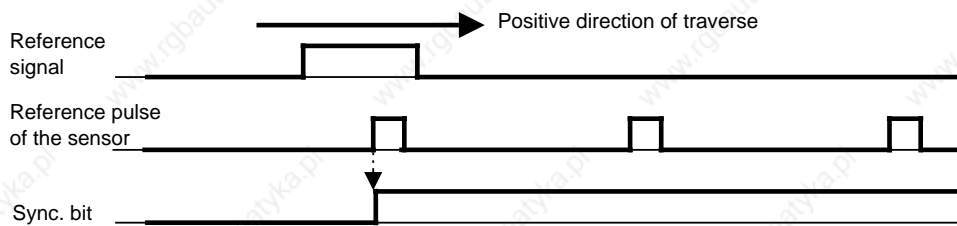

Figure 15-17. Position of the Reference Point (SYNC Bit 0 --> 1) within the Reference Signal Range
- The first reference pulse that the module recognizes after a leading edge of the reference signal synchronizes the module (see figures 15.17 and 15.19a).
The figures 15.17, 15.18 and 15.19a illustrate different possibilities for a reference traversing path. Figure 15.19b illustrates a reference traversing path, which is terminated without synchronization: